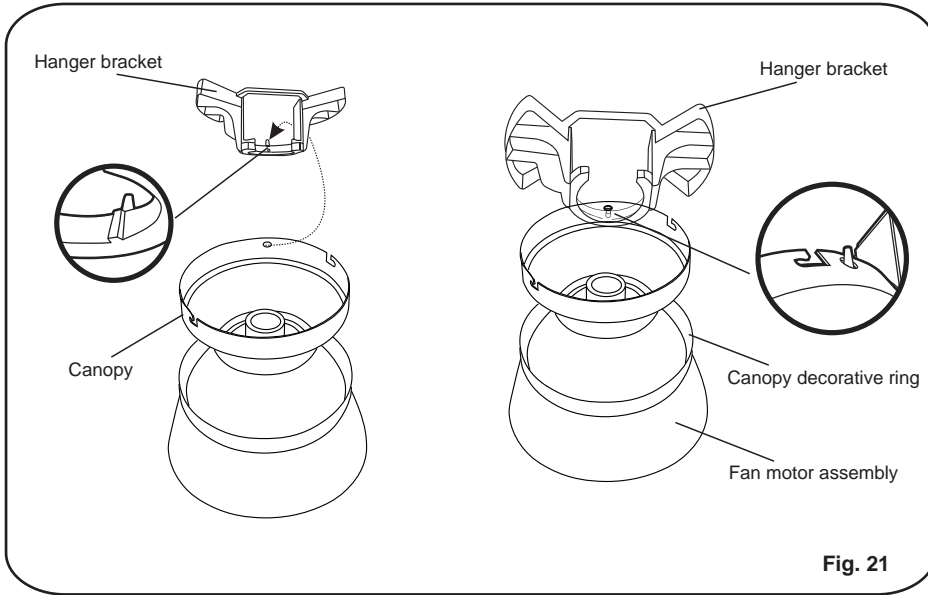

Fig. 21
Step 5. To prepare the fan for wiring, hang fan onto hanging bracket by sliding the canopy over the hanging bracket tab. (Use one of the non-slotted holes on the rim of the canopy) (Fig. 21)